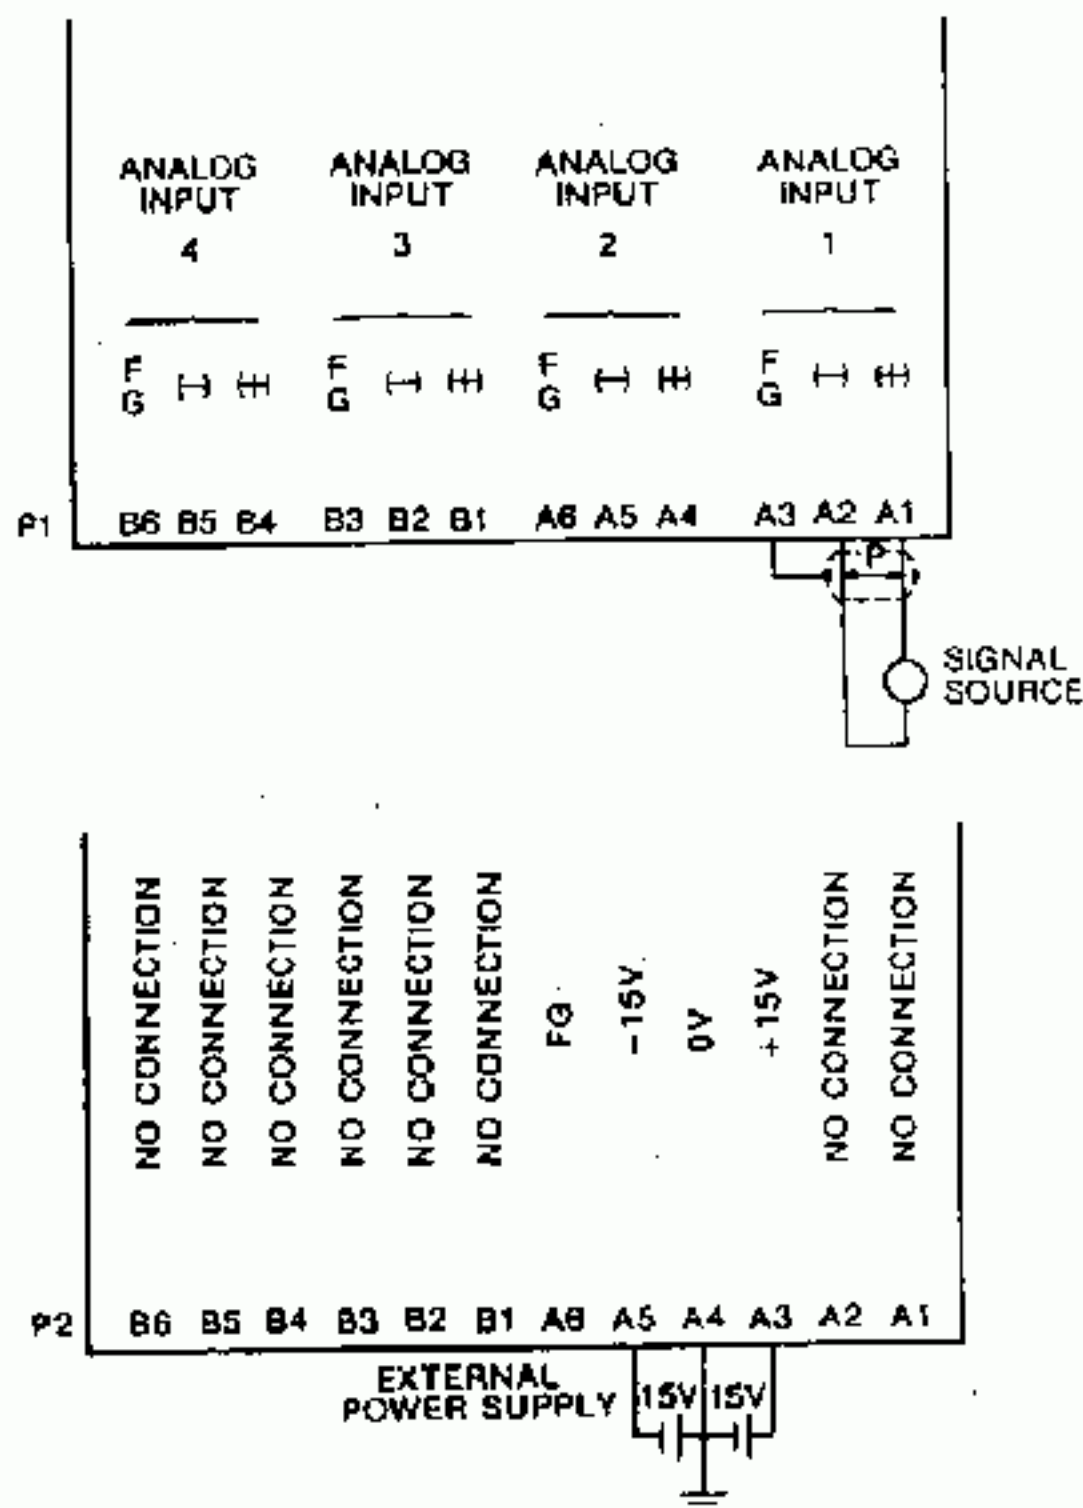

Fig. 3.5 Terminal Numbers of B1073
Input signals should be connected as shown in Fig. 3.4. The connection should be made by 2-core twisted shielded cable. Each input terminal of the B1073 is connected through resistors, to 0V (GND) of external power supply, however, this 0V is isolated from frame ground (FG). As a rule, all input signals should be floating relative to earth ground at signal source side, and 0V of external power supply should be grounded at one point. (Fig. 3.5)